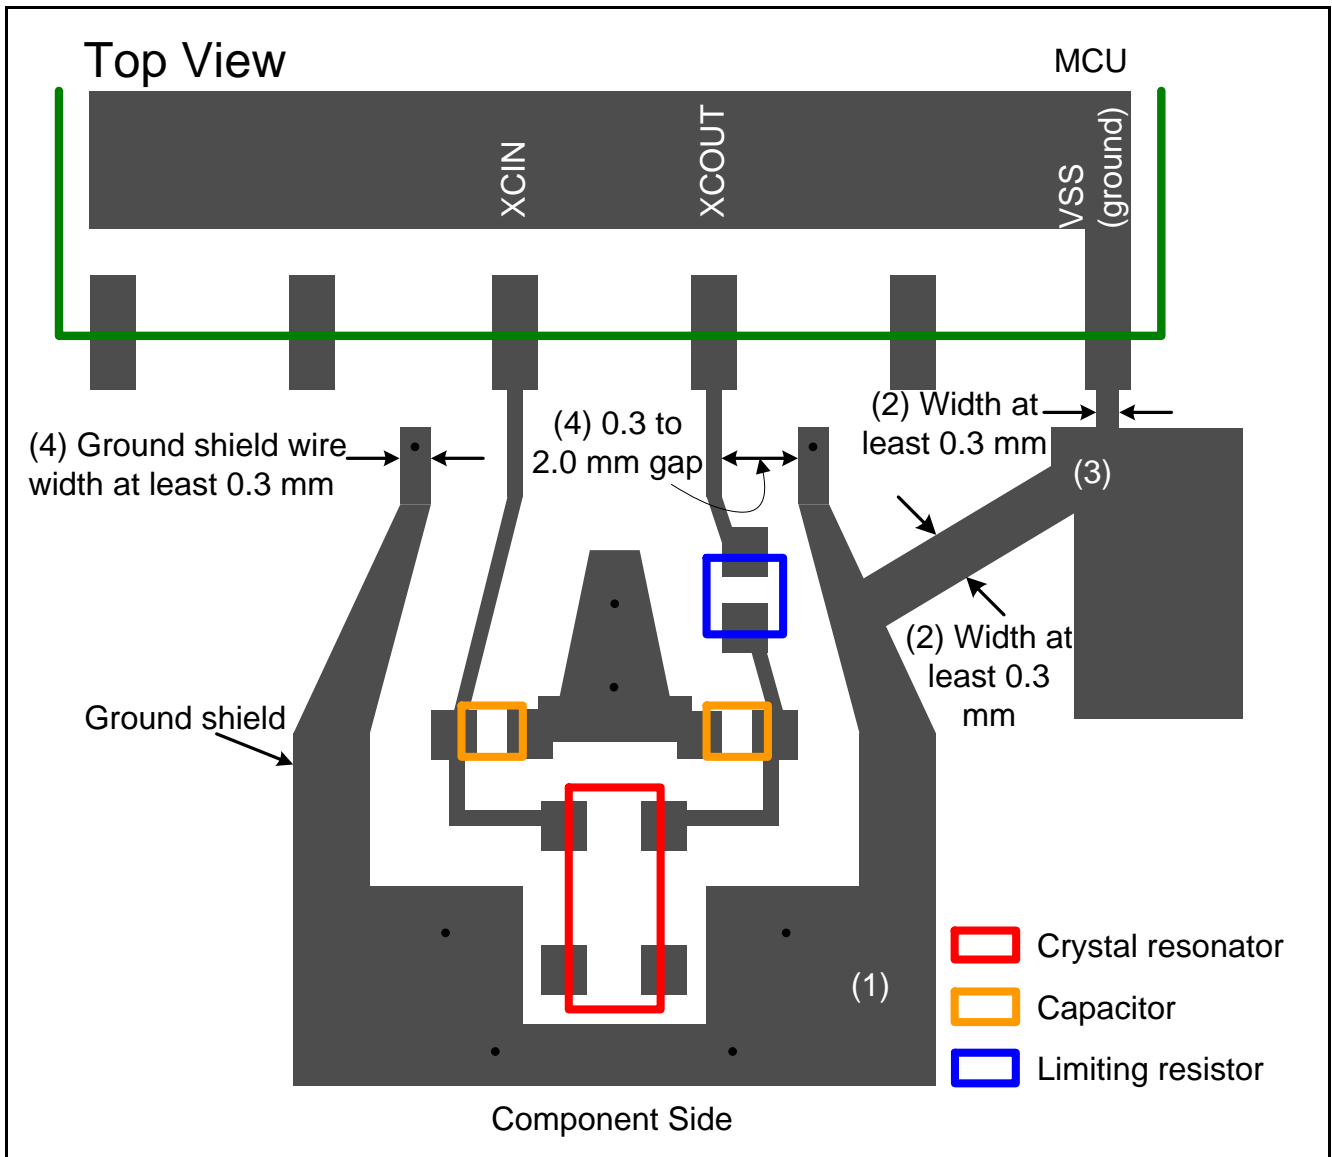

Figure 1.3 Trace Example for the Ground Shield
Shield the crystal resonator with a ground trace. (1) to (4) below describe the points regarding the ground shield, and Figure 1.3 shows a trace example.
- (1) Lay out the ground shield on the same layer as the crystal resonator wiring.
- (2) Wire the ground shield as close to the VSS pin on the MCU as possible, and ensure that the wire width is at least 0.3 mm.
- (3) To prevent current from running to the ground shield, branch the ground shield and the ground on the board near the VSS pin on the board.
- (4) Make the ground shield wire width at least 0.3 mm, and leave a 0.3 to 2.0 mm gap in between wires.